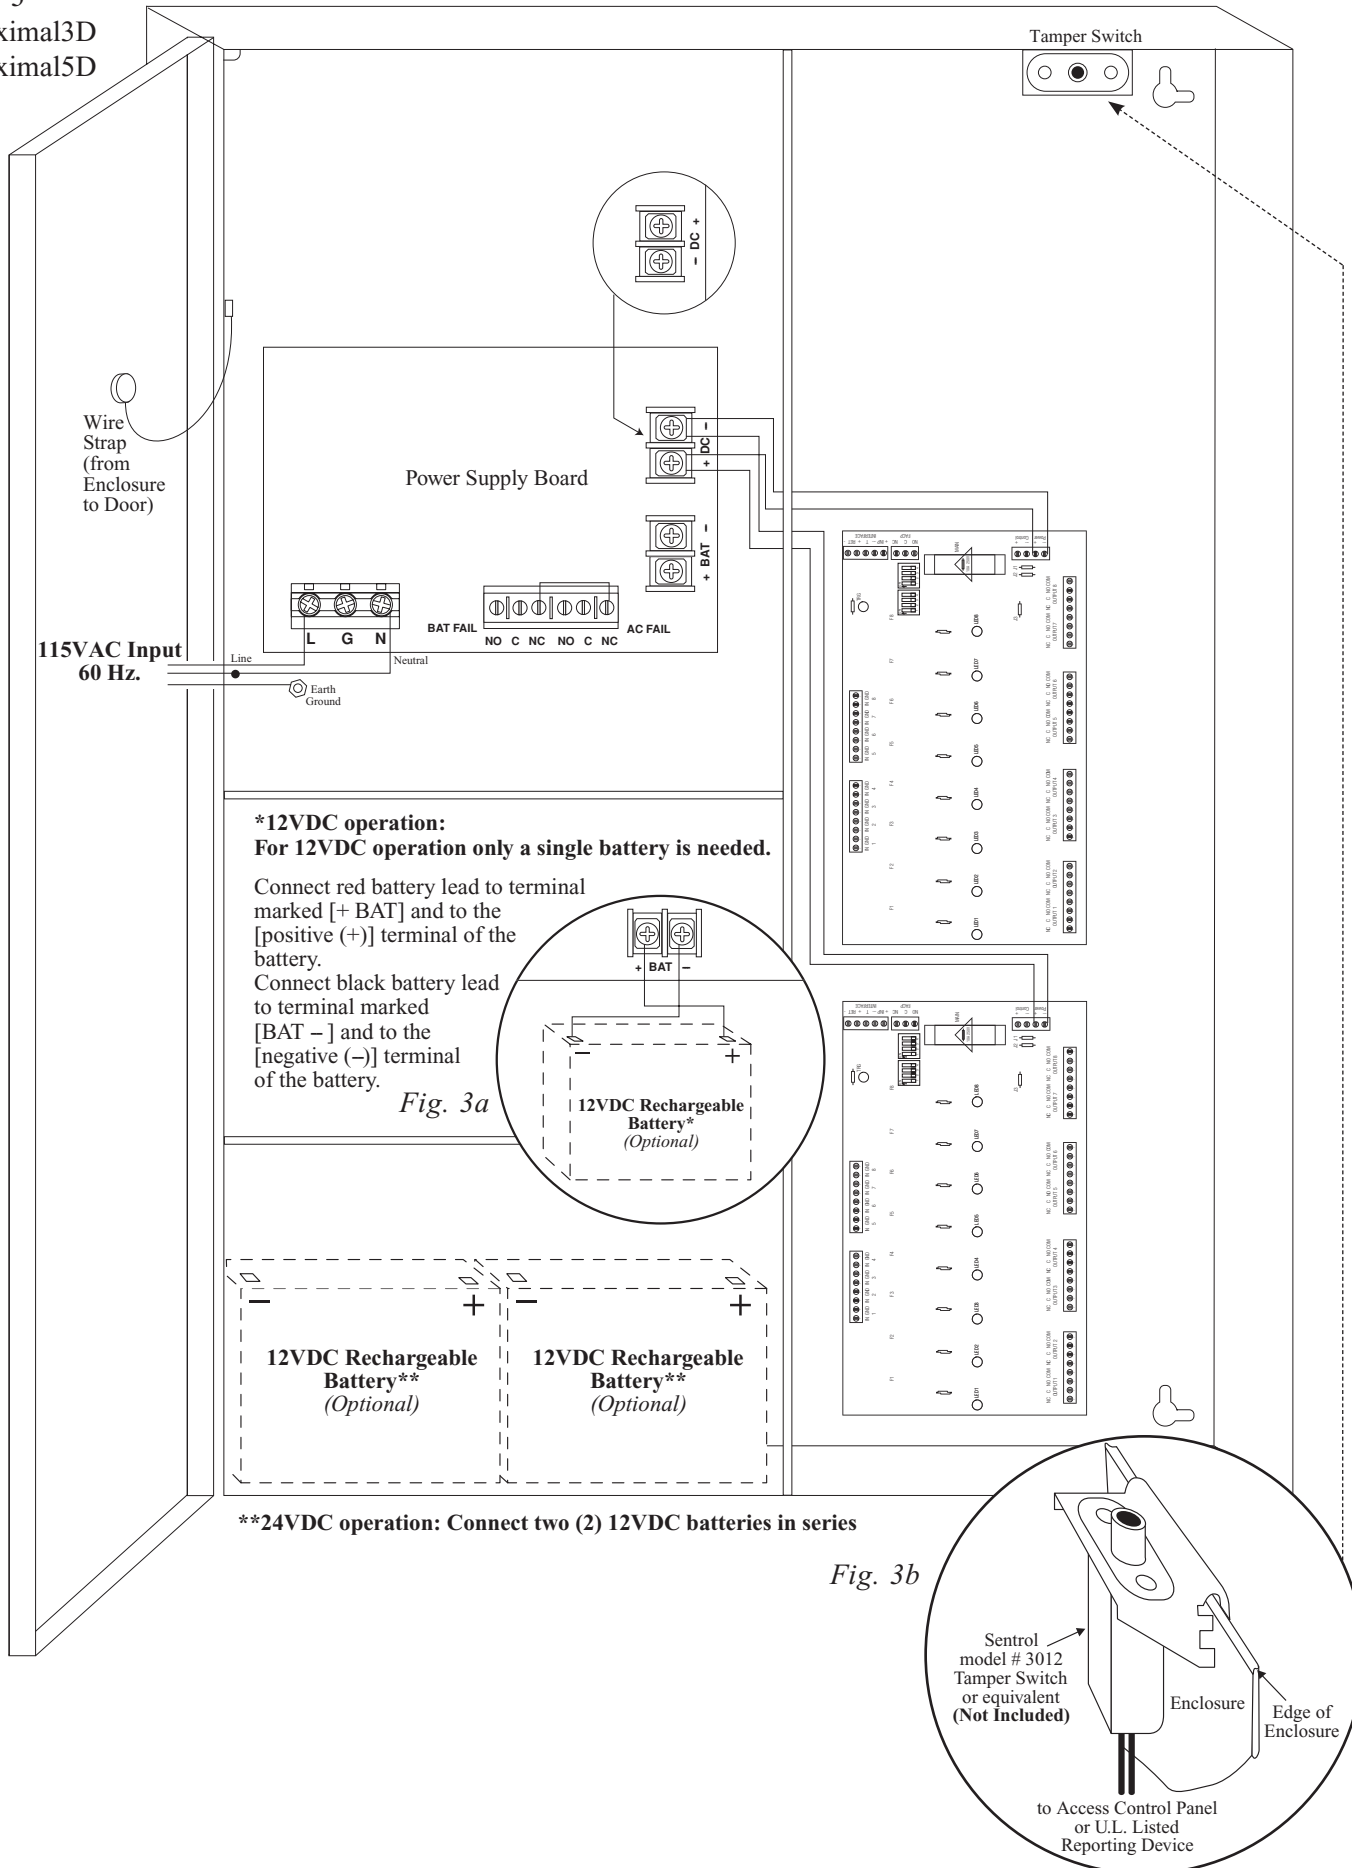

Fig. 4
+ BAT -	Stand-by battery connections. Connect one (1) 12VDC battery to the terminals marked [+ BAT -] for 12VDC operation (Figs. 3 and 3a, pg. 9). Use two (2) 12VDC batteries wired in series for 24VDC operation (Fig. 4, pg. 10).